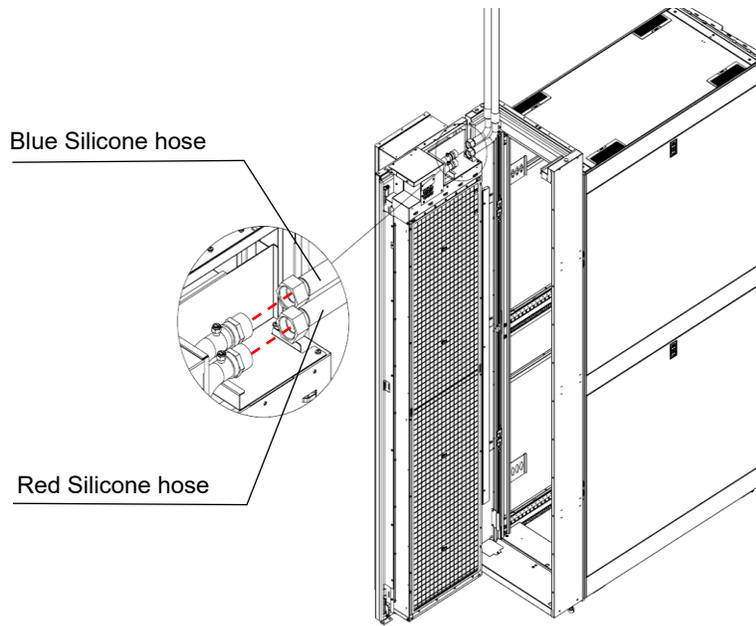

Figure 37. Hose Connection
- Connect the other end of the silicone hose to the primary side water circuit with sealant. (Figure 37)